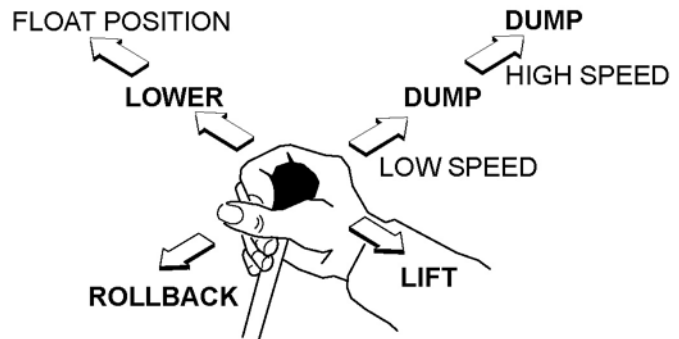

**Figure 26.** Control Valve & LU126 Loader Feedline Connections
2. Connect loader feedline hoses to the loader control valve quick couplers. See Figure 26.